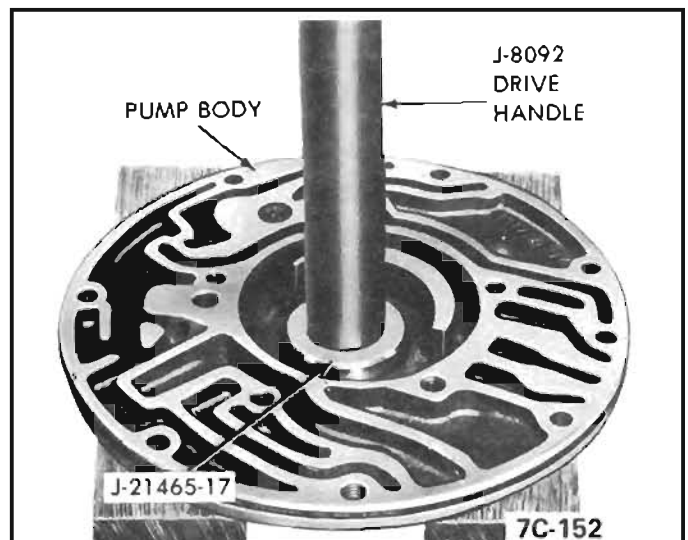

Figure 129 Pump Bushing Removal
1. Check oil pump bushing for nicks, severe scoring or wear. If bushing replacement is necessary remove as follows: Support on wood blocks. Use Tool J-21465-17 and Drive Handle J-8092 to press bushing out of pump body. To install new oil pump bushing, use Tool J-21465-17 and Drive Handle J-8092 and press bushing into pump body from gear pocket face until it is flush to .010" below opposite face. (Front pump seal side) *See Figure 129.*